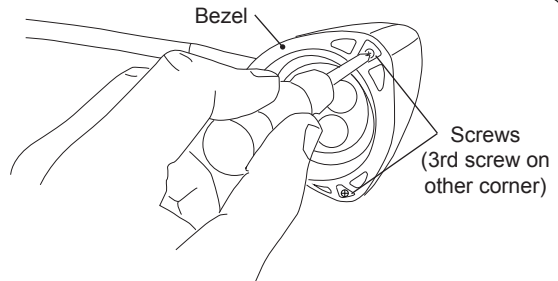

Figure 1. Bezel Screw Locations
2. Remove the (3) screws that secure the bezel to the lighthouse (figure 1).